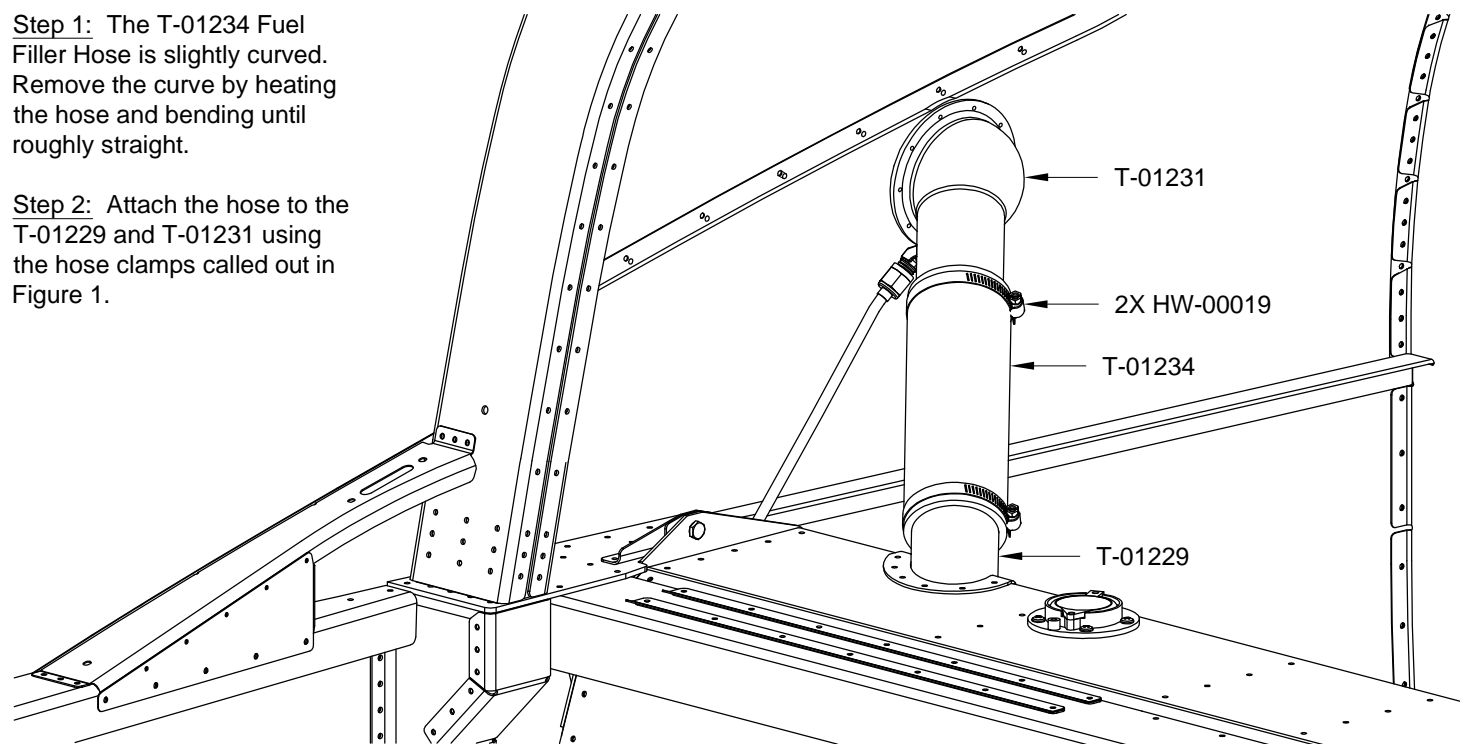

FIGURE 1: ATTACHING THE FUEL FILLER HOSE
Step 2: Attach the hose to the T-01229 and T-01231 using the hose clamps called out in Figure 1.